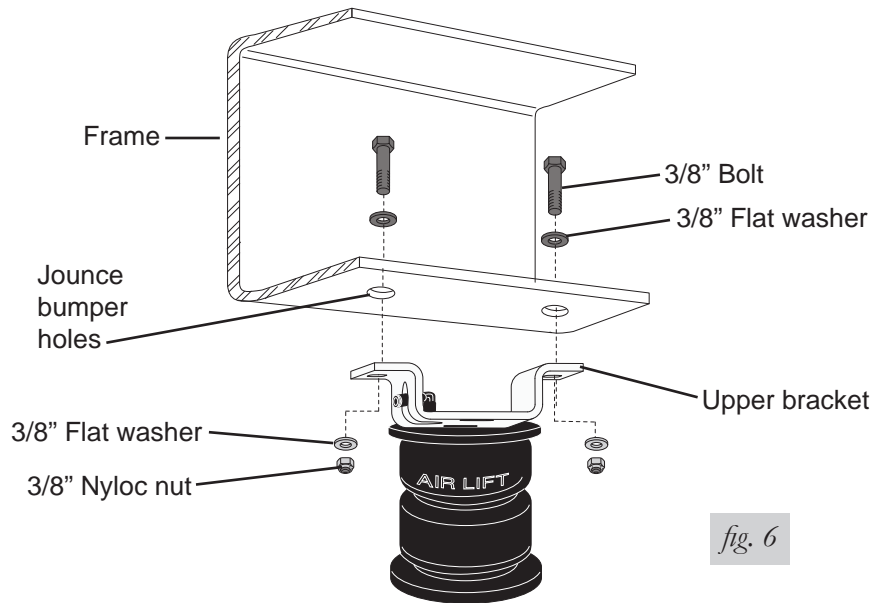

fig. 6
2. Insert two 3/8" bolts (H) and flat washers (J) through the existing jounce bumper holes and through the slotted holes in the upper bracket (Fig. 6).
3. Attach the upper bracket using two flat washers (J) and nyloc nuts (L) on each previously installed bolt (Fig. 6).
*There should be a thumbs width between the bellows roll plate (D) and the leaf spring U-bolt.*